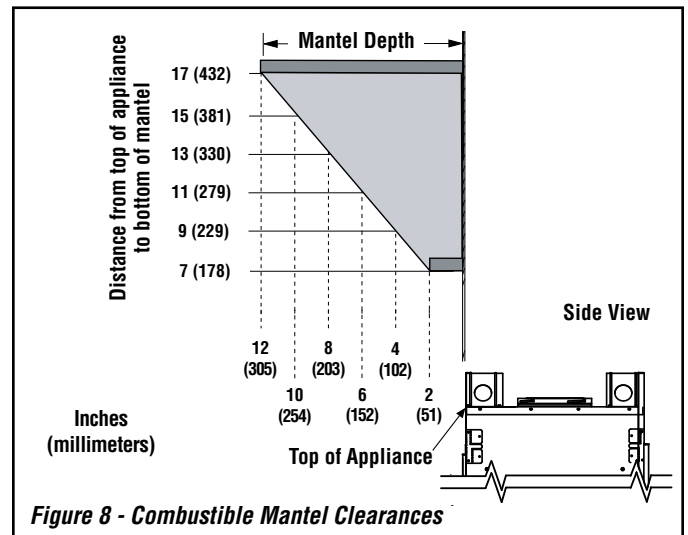

Figure 8 - Combustible Mantel Clearances
- Vertical installation clearances to combustible mantels vary according to the depth of the mantel (see **Figure 8 on Page 11**).
Vertical installation clearances to combustible mantels vary according to the depth of the mantel. See **Figure 8**. Mantels constructed of non-combustible materials may be installed at any height above the appliance opening.